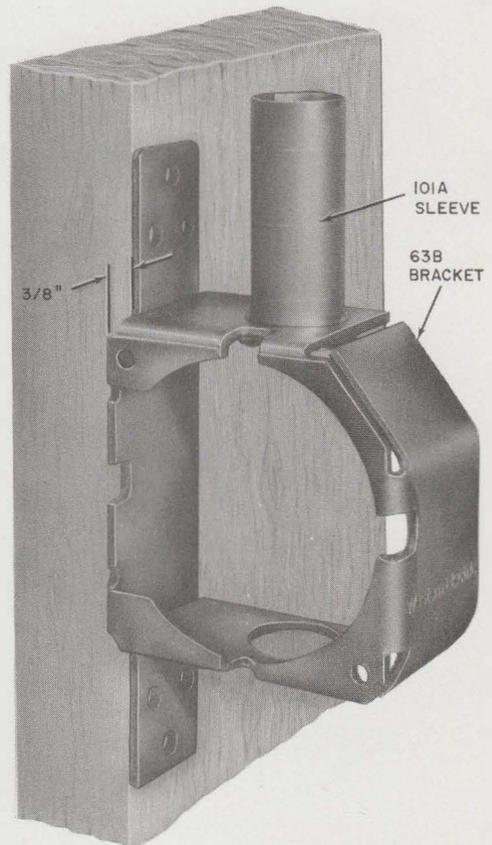

Fig. 32—63B Bracket With 101A Sleeve Installed
2.06.1 The 101A sleeve (Fig. 32) is used to protect the prewiring while the drywall is being cut around the 63B bracket as the drywall is being installed on the studding. The metal tube snaps into either access hole of the bracket before the wiring is placed.
2.002 On Page 20, Fig. 32 is obsolete. A new Fig. 32 is shown in this addendum.